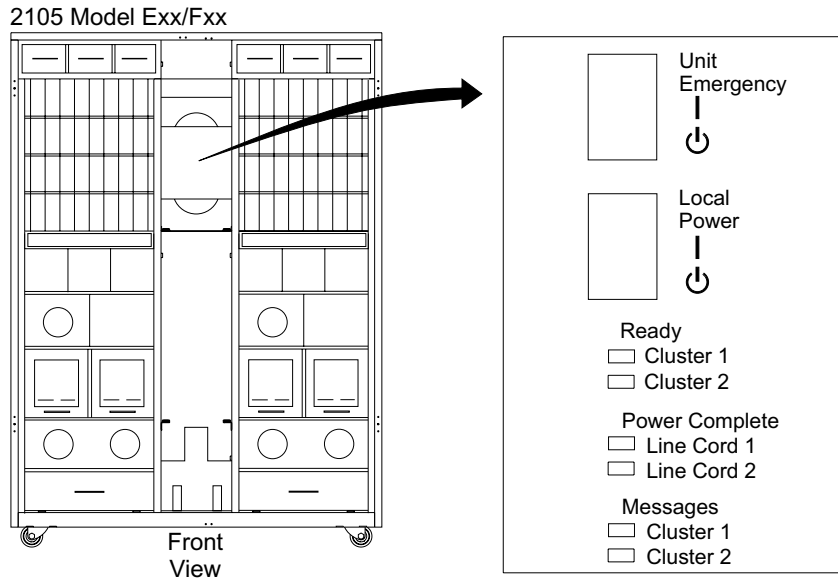

Figure 122. 2105 Model E10/E20 Operator Panel Locations (S008810m)
- **Yes**, observe the state of the Power Complete Line Cord indicators. See Figure 122 on page 236. Use the state of these indicators with “MAP 1320: Isolating Problems Using Visual Symptoms” on page 58.
- Go to the operator panel on the front of the 2105 Model E10/E20. Press the Local Power switch in Figure 122, to On (up) for about two seconds.